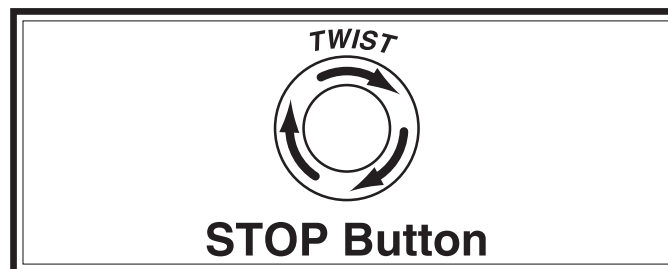

Figure 33. Resetting the switch.
6. Twist Emergency Stop button clockwise until it springs out (see **Figure 33**). This resets the switch so the machine can start.